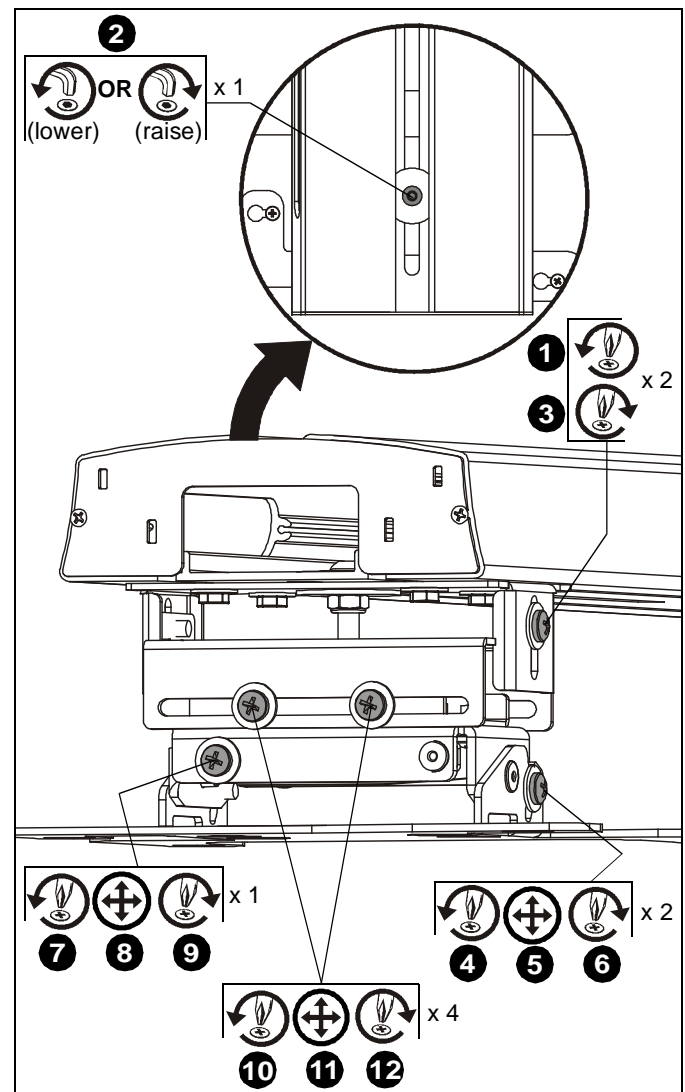

Figure 17
1. Loosen two Phillips screws (one on left, one on right). (See Figure 17)
2. Turn the button head cap screw on top of mount clockwise to raise the mount (counterclockwise to lower the mount). (See Figure 17)
3. Tighten two Phillips screws. (See Figure 17)
4. Loosen two Phillips screws (one on right, one on left). (See Figure 17)
6. Tighten two Phillips screws. (See Figure 17)
7. Loosen one Phillips screw. (See Figure 17)
9. Tighten one Phillips screw. (See Figure 17)
10. Loosen four Phillips screws (two on front, two on back). (See Figure 17)
12. Tighten four Phillips screws. (See Figure 17)